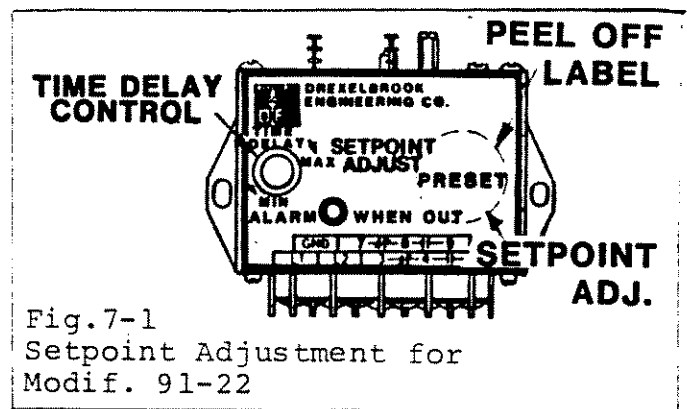

Fig.7-1
A. Pry off the "preset" label on the top of the electronic unit for access to the setpoint adjustment assembly (this is the hex nut visible inside the chassis after the label has been removed). See Figure 7-1.